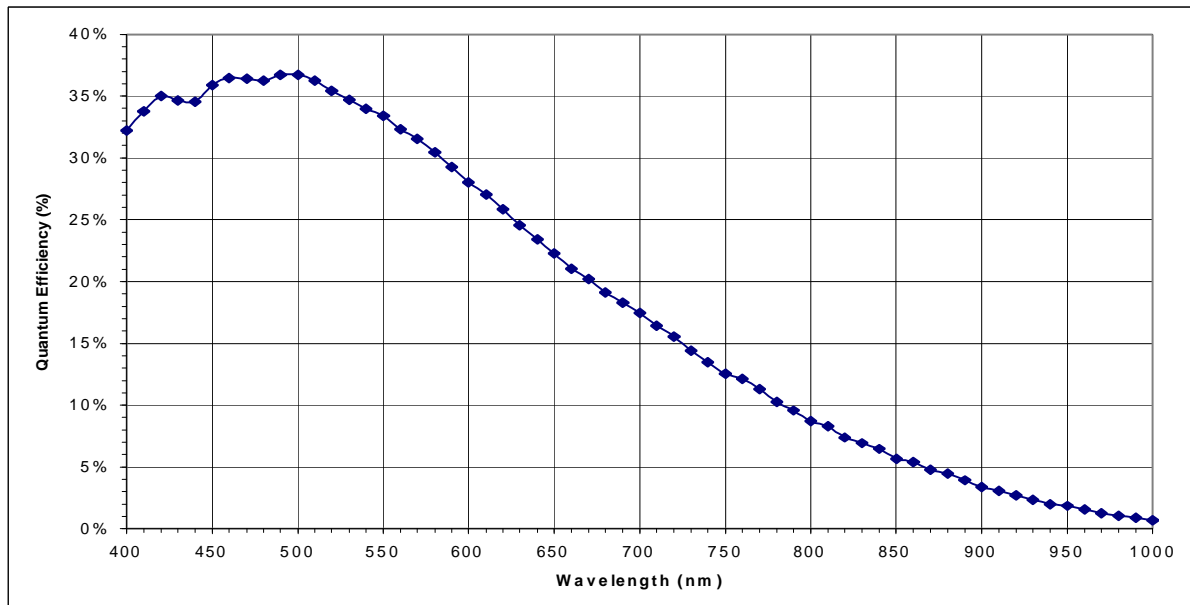

Figure 13 Nominal KAI 0372M Spectral Response
- Refer to typical values from Figure 13 – Nominal KAI-0372M Spectral Response.